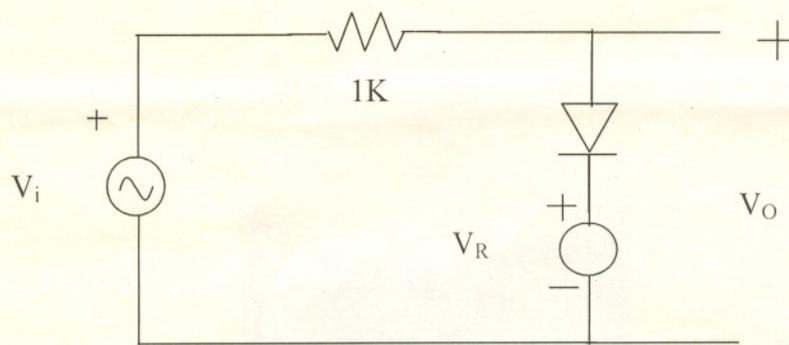

Fig. 1.3
1. Construct the circuit shown in Fig.1.3. Observe V_i and V_o simultaneously on the oscilloscope and sketch the waveforms.
2. Reverse the polarity of the diode in Fig.1.3 and repeat step 1.